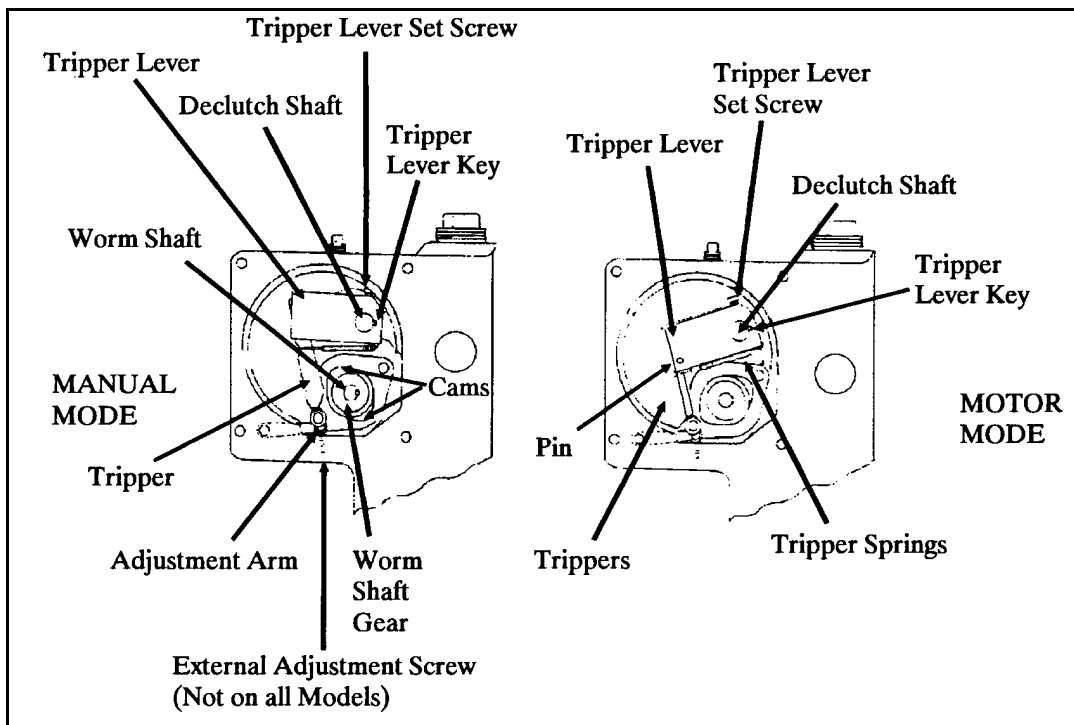

Figure 4-46 Tripper Adjustment
26. Tripper Adjustment Refer to Figure 4-46